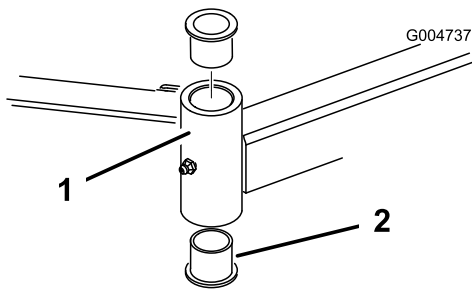

Figure 86
4. Insert a pin punch into the top or bottom of the mounting tube and drive the bushing out of the tube (Figure 86).